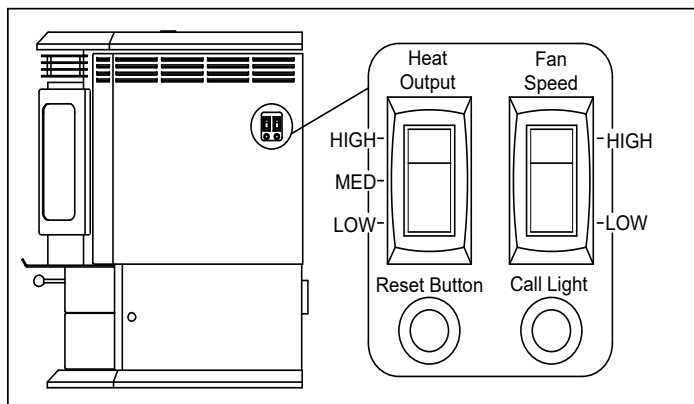

Figure 10.1
The appliance is like most modern furnaces; when the thermostat calls for heat, your appliance will automatically light and deliver heat. When the room is up to temperature and the thermostat is satisfied, the red call light will go off and the appliance will shut down (**Figure 10.1**).
3. Locate the heat output control switch mounted on the right side. Switch it to the high setting by pushing the top of the switch in, then adjust the thermostat to its highest setting. The red call light located on the upper right corner of the right side panel will be on. This indicates the thermostat is calling for heat (**Figure 10.1**).
3. Occasionally the appliance may run out of fuel and shut itself down. When this happens, the red call light will be on (**See Figure 10.1 on page 10**). To restart it, fill the hopper and press the reset button (**Figure 10.1 on page 10**). When you press the reset button the red call light will go out. Release the button and the light will come back on. You should see a fire shortly. If not, follow **Starting Your First Fire on page 10**.